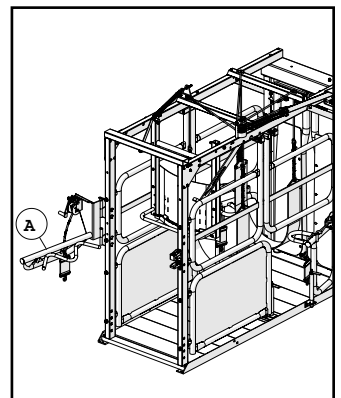

Figure 6: Rear leg lifter (open position)
6. After the back stop is positioned close the the rear leg lifter (a) (Figure 6).